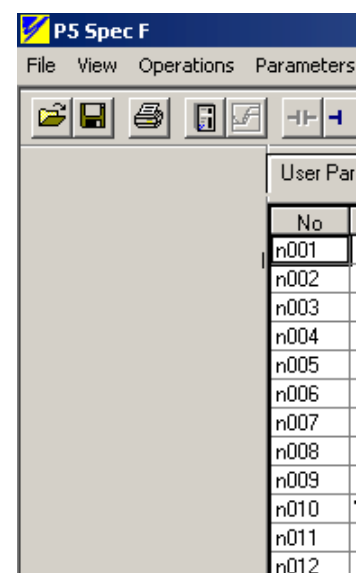

Figure 3.13: Monitor Started
3. If you are using the monitor function for the first time or there are no monitor parameters selected, the window that opens up on the left side will be blank (See Figure 3.13).